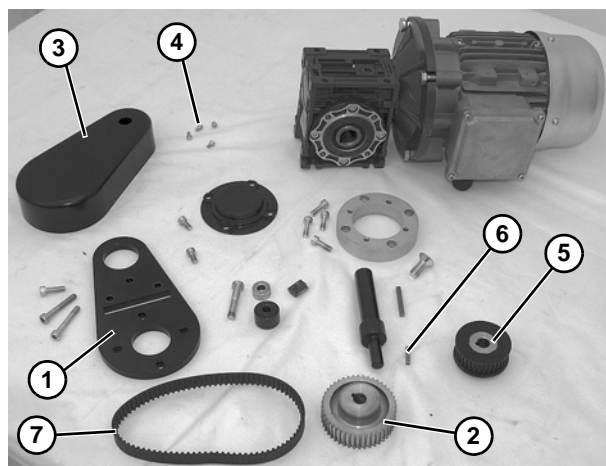

Figure 5
1. Gather installation components (**Figure 5**)
Type 1 mounting package shown (**Figure 5**), Type 2 mounting package similar.